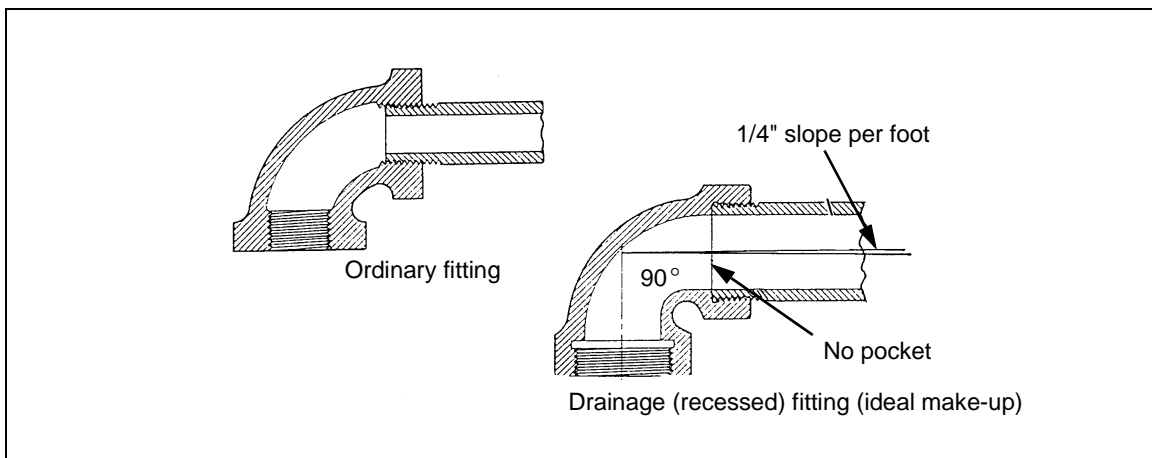

Figure 6-20. Ordinary and Drainage Pipe Fittings
6-48. Fittings (*Figure 6-20*) for this pipe are classified as either ordinary (standard) or drainage (recessed).
- **Drainage (recessed).** Drainage fittings are used in waste systems. They have threads at a slight angle so that horizontal drainage pipe will slope about 1/4 inch per foot (*Figure 6-20, page 6-19*). They range in size from 1 1/4 to 12 inches.